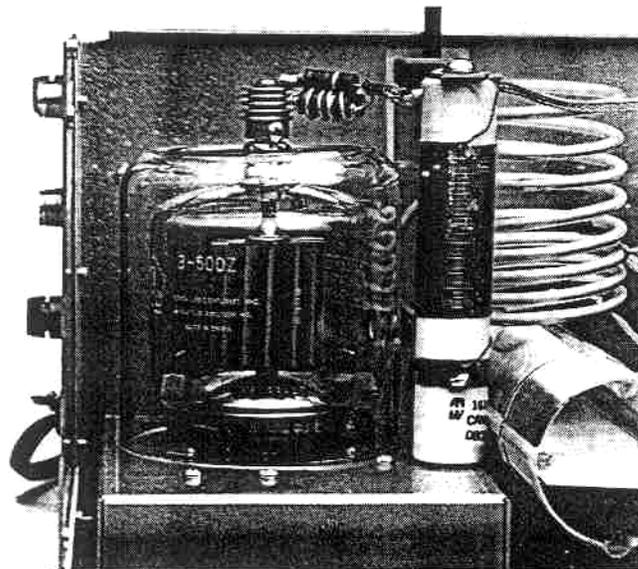

Fig. 3.3
5. Set the plate cap heat sink in place on the anode connector of the power tube. See Fig. 3.3